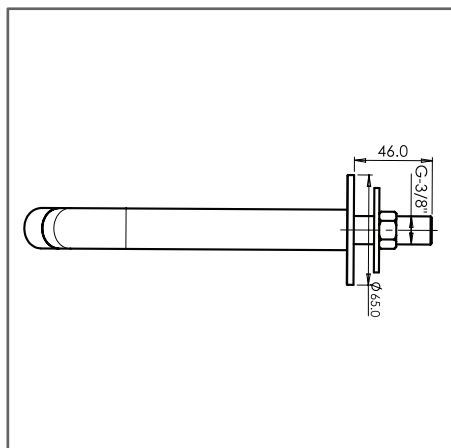

Fig. 1
- 2- Faça uma abertura adequada na parede onde pretende instalar a torneira. (Ver Fig. 1)
2. Drill an appropriate hole at the place where you want to install the spout of the tap. (See Fig.1)